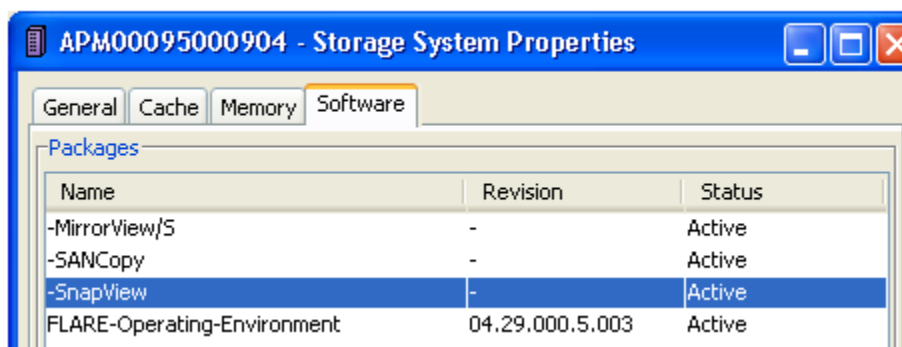

Figure 12 – SnapView Configuration
3. Make sure you have the following software/license installed on your array (Figure 12)